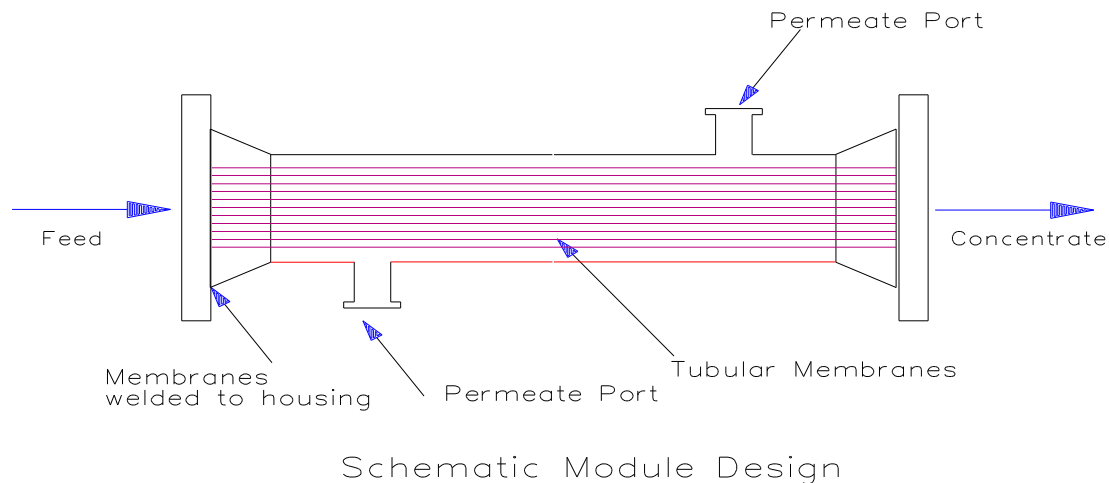

Figure 2
SEPRODYN[®] modules contain a bundle of tubular membranes made of polyethylene (PE) that is tightly potted at both ends with a tubular casing and a cap made of polypropylene, polysulfon or high-grade steel. (Figure 2) This way a space is formed for the clear permeate and the retentate.